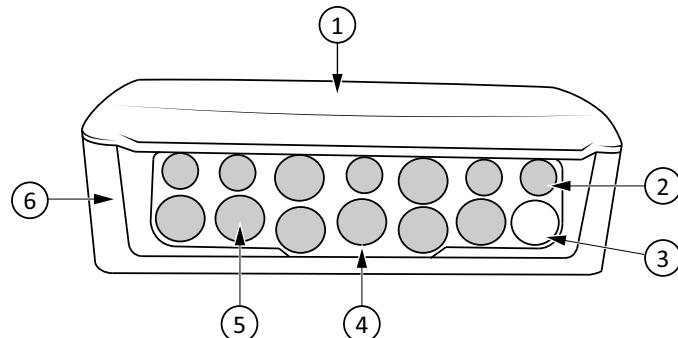

Figure 1: Lid, 2: Cable gland assembly, 3: LED, 4: Cable gland, 5: Soft part of cable gland, 6: Housing
- Pierce a hole that is smaller than the cable diameter through the soft part of the cable gland (see *Figure 1*) with a circular object, such as a Phillips head screwdriver or an awl.
- Mount the damper unit on a stable, vibration-free surface. It can be mounted horizontally with the lid up (No 1 in *Figure 1*) or vertically with the cable gland assembly (Pos. 2 in *Figure 1*) of the unit pointing down.